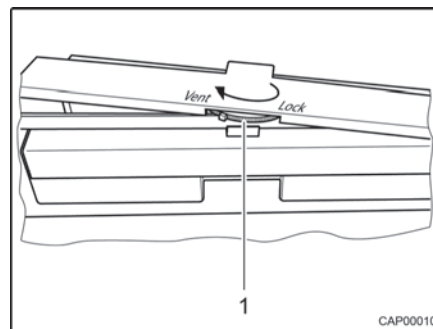

Fig. 68 Refrigerator door locking mechanism
**Closing:** ■ Turn the locking wheel (Fig. 68,1) as far as possible clockwise ("Lock"). The "Lock" position remains permanently set during operation.
**Locking in the ventilation position:** ■ Turn the locking wheel (Fig. 68,1) as far as possible anticlockwise ("Vent").